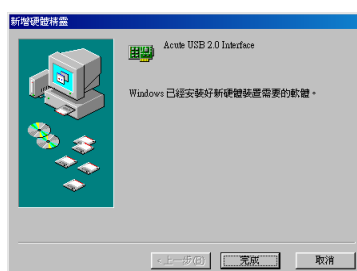

Figure 5
7. Click "Finish" (Figure 5) once Windows has installed the DSO driver.